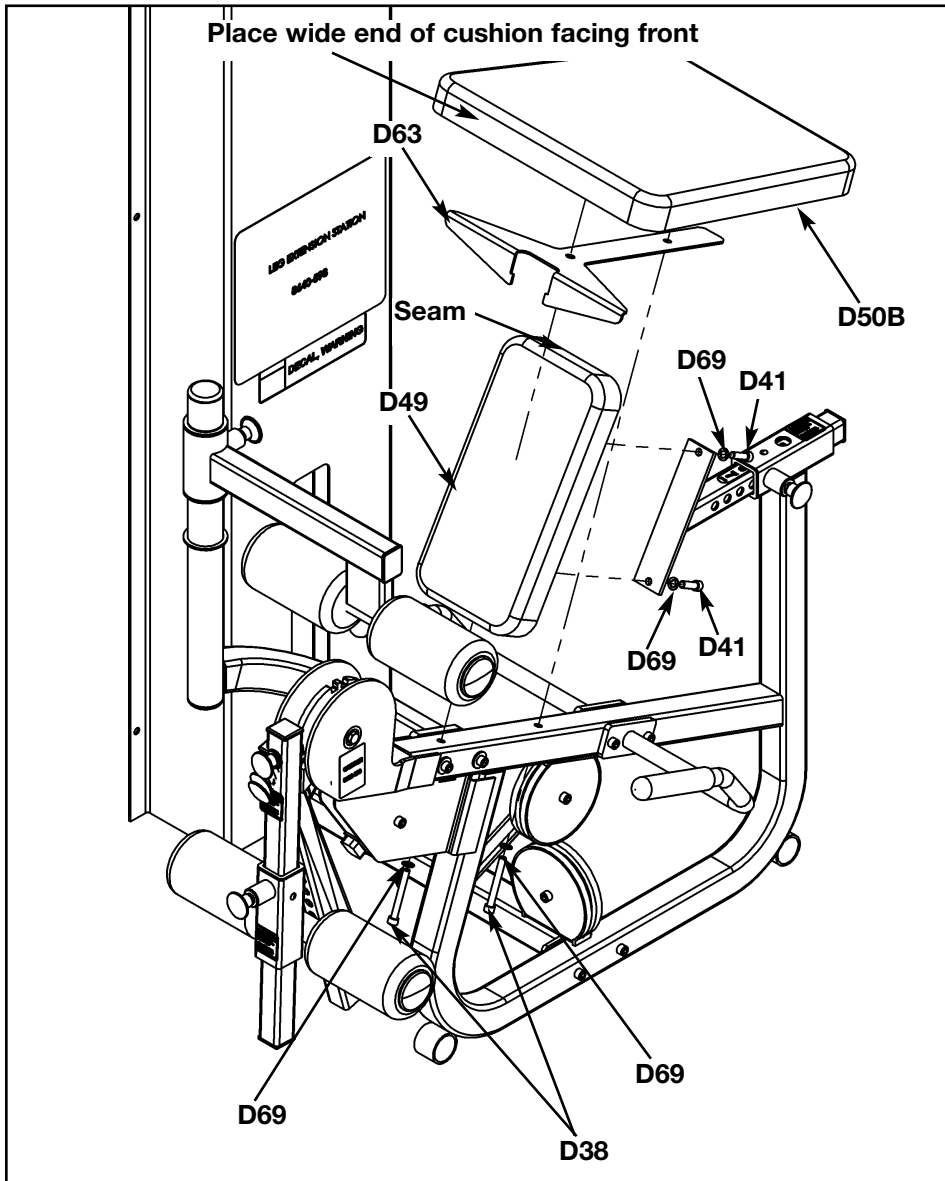

Figure 15
- H. Install two plastic inserts (#D46) using a rubber mallet. See Figure 15.
**8. Install seat and back cushions** (see steps A - D and Figure 15).
- B.** Place support plate (D63) onto frame as shown in Figure 15).
- D.** Install back cushion (#D49) using two SHCS .375-16 x 1.25 (#D41) and two internal tooth lockwashers (#D69) as shown in Figure 15.